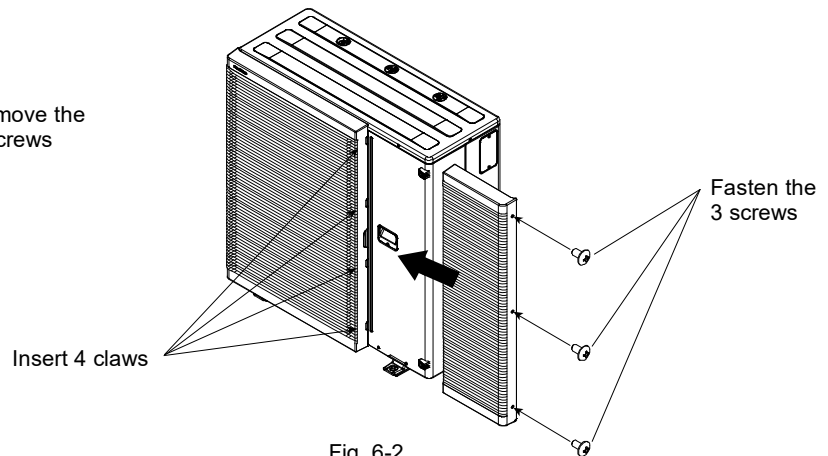

Fig. 6-2
2. Insert 4 claws of the discharge grille (right side) [4] and fasten the 3 screws. (Fig. 6-2)